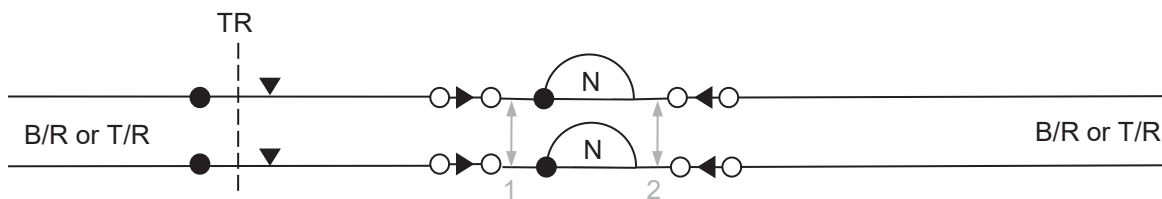

Figure 2: Line Circuit: Break, Two Directions
4. Check Initial State	<ul style="list-style-type: none"> Switch the multi-meter to a low voltage range. Connect the meter to the line circuit terminals as indicated in Figure 2, with proper polarity. → Check the proper line voltage is present at both location 1 and location 2. Drop Track Circuit (TR). → Check the proper line voltage is still present at both location 1 and location 2.